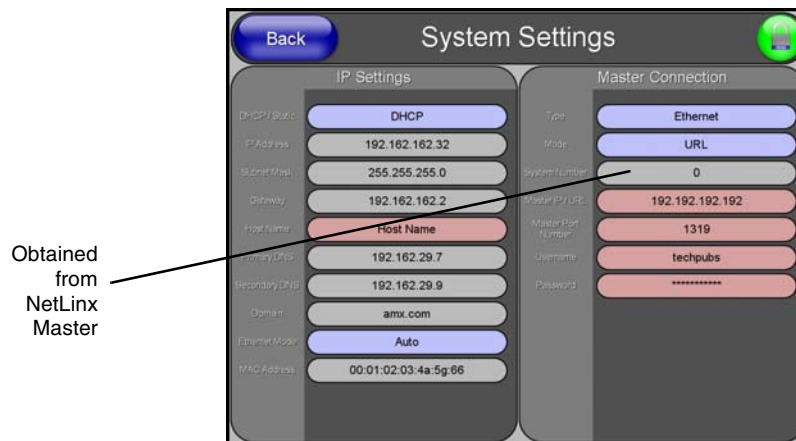

FIG. 84 System Settings page
7. Select **Protected Setup > System Settings** (located on the lower-left) to open the System Settings page (FIG. 84).